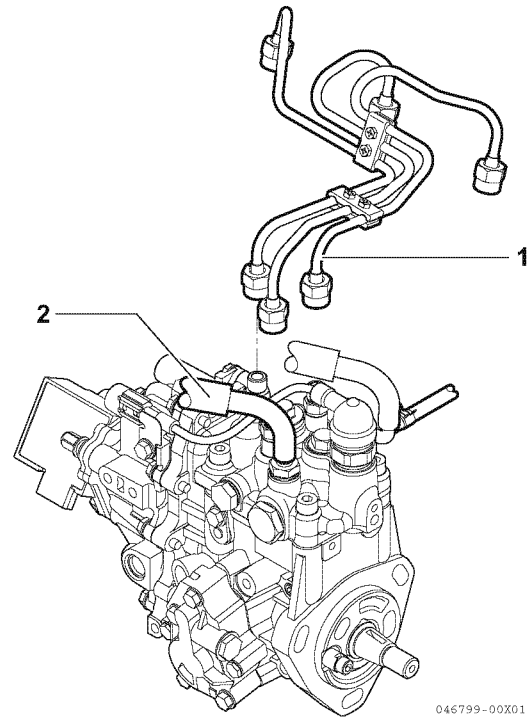

Figure 14-1
5. Remove the high-pressure fuel injection lines (1, **Figure 14-1**) for each assembly from the engine.
7. Disconnect the connector of the electric wiring of the solenoid feed pump. Remove the fuel line (2, **Figure 14-1**) from the fuel filter of the fuel injection pump. This prevents the fuel injection pump from injecting fuel during compression testing.